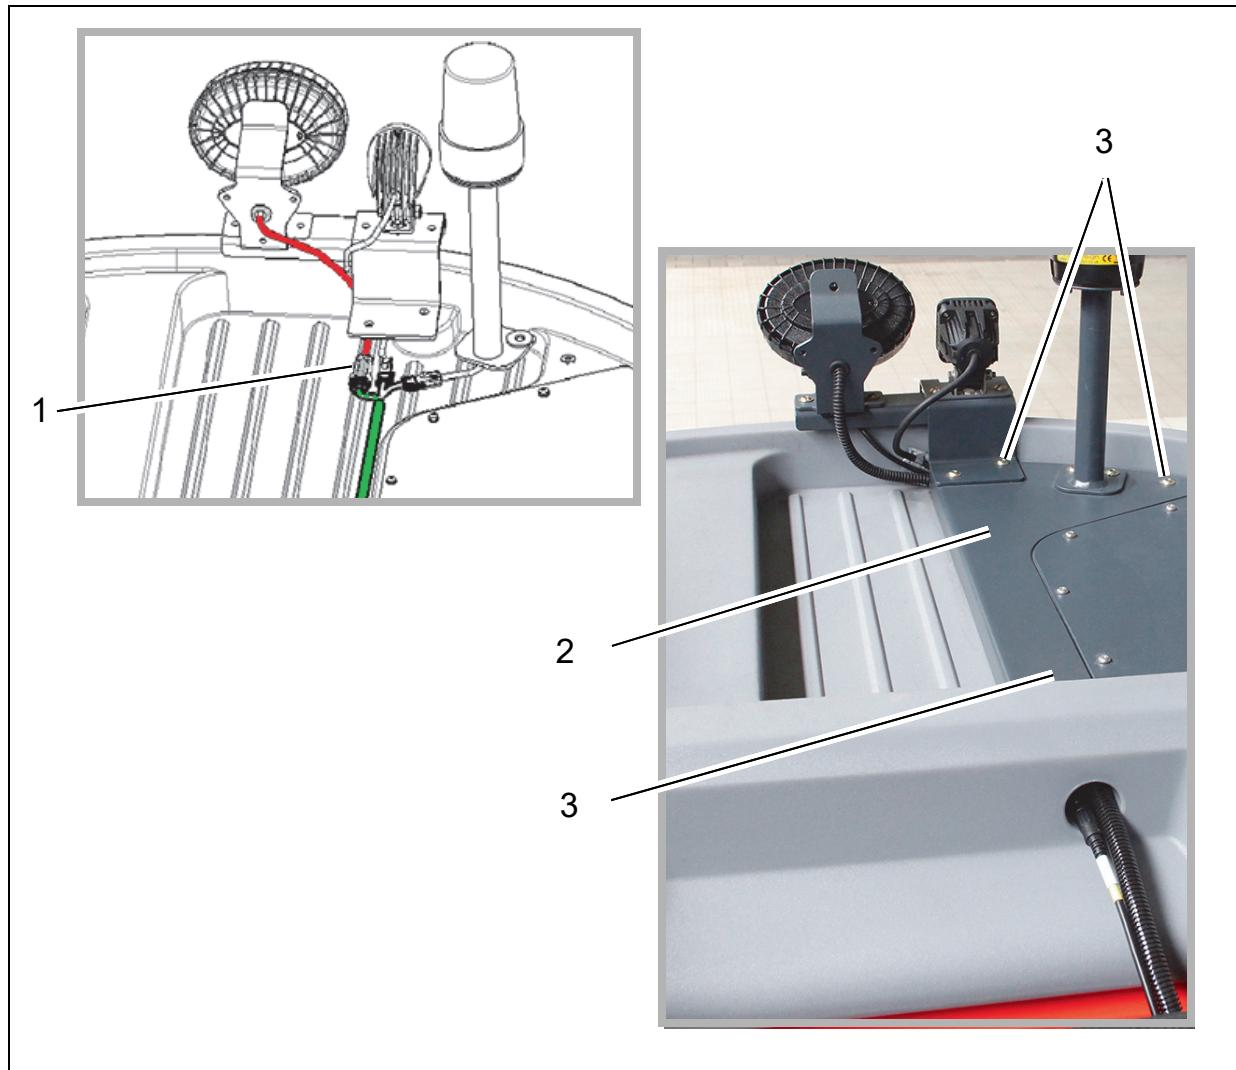

Fig. 6
1. Connect plug E15 of cable loom W74 to the plug of the BlueSpot (Fig. 6/1).
2. Cover cable loom W74 with plugs using the pre-assembled cover plate (Fig. 6/2).
3. Attach the cover plate to the tank cap using three M6x12 flanged button head bolts (Fig. 6/3).